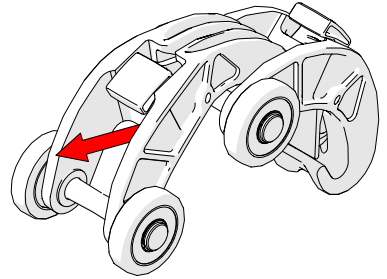

Fig. 47 - Pull the link backwards to secure catch
2. Pull the QuickLink until you hear a click that ensures the latch has been set (Fig. 47).